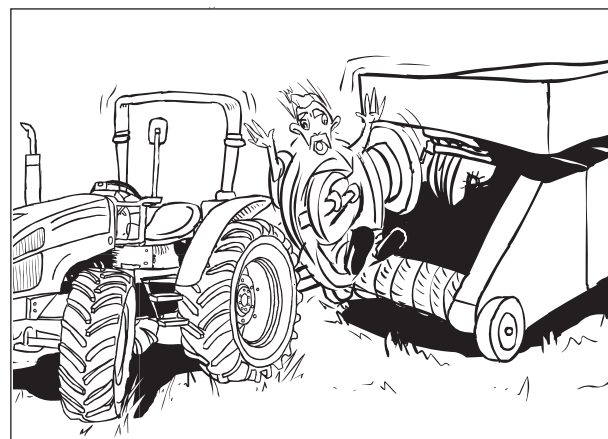

Fig.2-33
- Before connecting, disconnecting, cleaning or adjusting implements driven by the power take-off, disengage the PTO, turn the engine off, remove the ignition key and make sure that the PTO shaft is at standstill (Fig.2-33).
- Ensure that all the PTO driveline guards are in place and observe all safety signs (Fig. 2-33).